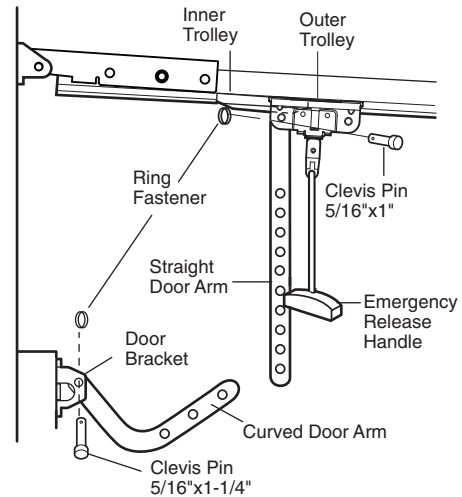

Figure 1
- Mark and drill 5/16" left and right fastening holes. Secure the bracket as shown in Figure 1 if there is vertical reinforcement.
- Make sure garage door is fully closed. Pull the emergency release handle to disconnect the outer trolley from the inner trolley. Slide the outer trolley back (away from the door) about 2" (5 cm) as shown in Figures 1, 2 and 3.
- **Figure 1:**